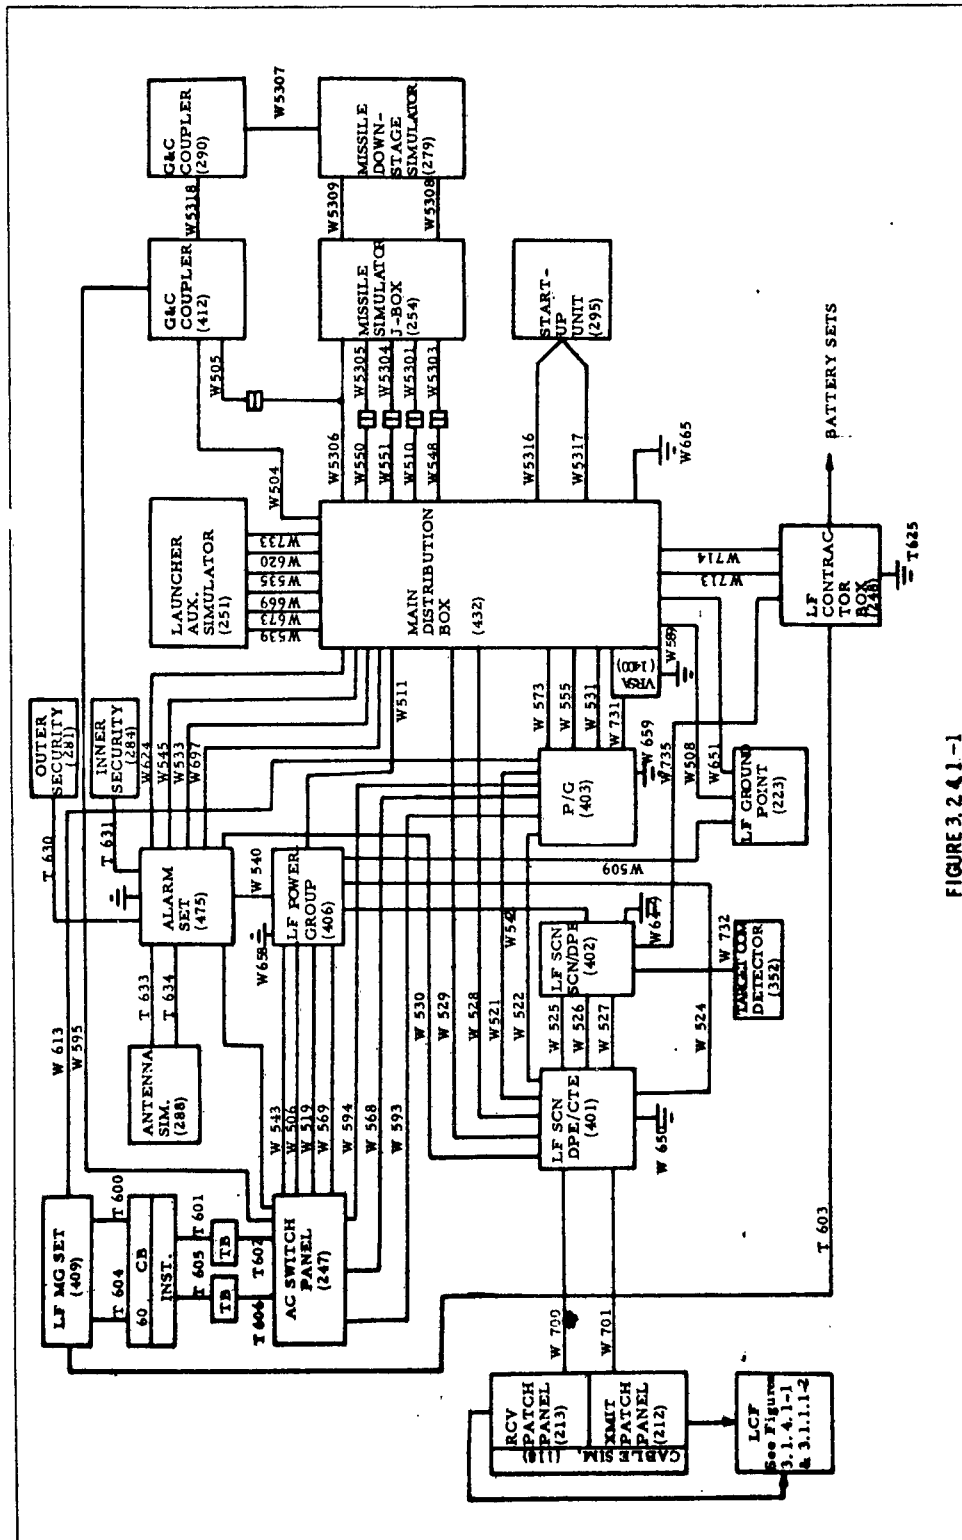

FIGURE 3.2.4.1-1
3.1 Connect the equipment per Figure 3.2.4.1-1
Refer to Figure 3.2.4.1-1
4.1 See Figure 3.2.4.1-1
See Figure 3.2.4.1-1